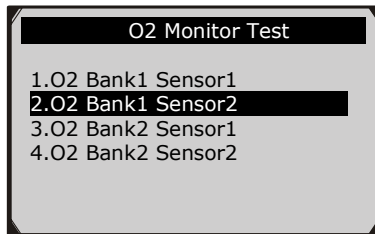

Figure 6.23
- 3) Use the **UP/DOWN** scroll button to select **O2** sensor from **O2 Monitor Test** menu and press **OK** button. (Figure 6.23)